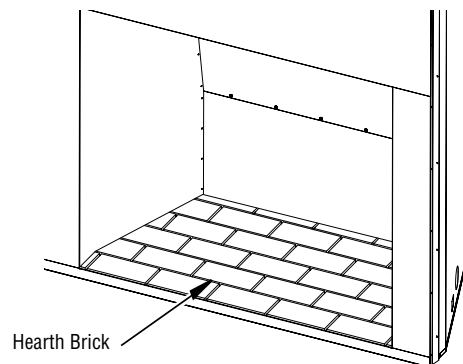

Figure 28 - Installing Hearth Brick Panel
1. Install hearth brick panel. Using at least two people, hold hearth brick panel by its side edges. Place the back edge of hearth brick panel into the firebox first and carefully lower the front edge of panel. Make sure hearth brick panel is centered in the firebox and flush with the front of the fireplace. Be careful not to pinch your fingers between the hearth brick panel and firebox (**Figure 28**).